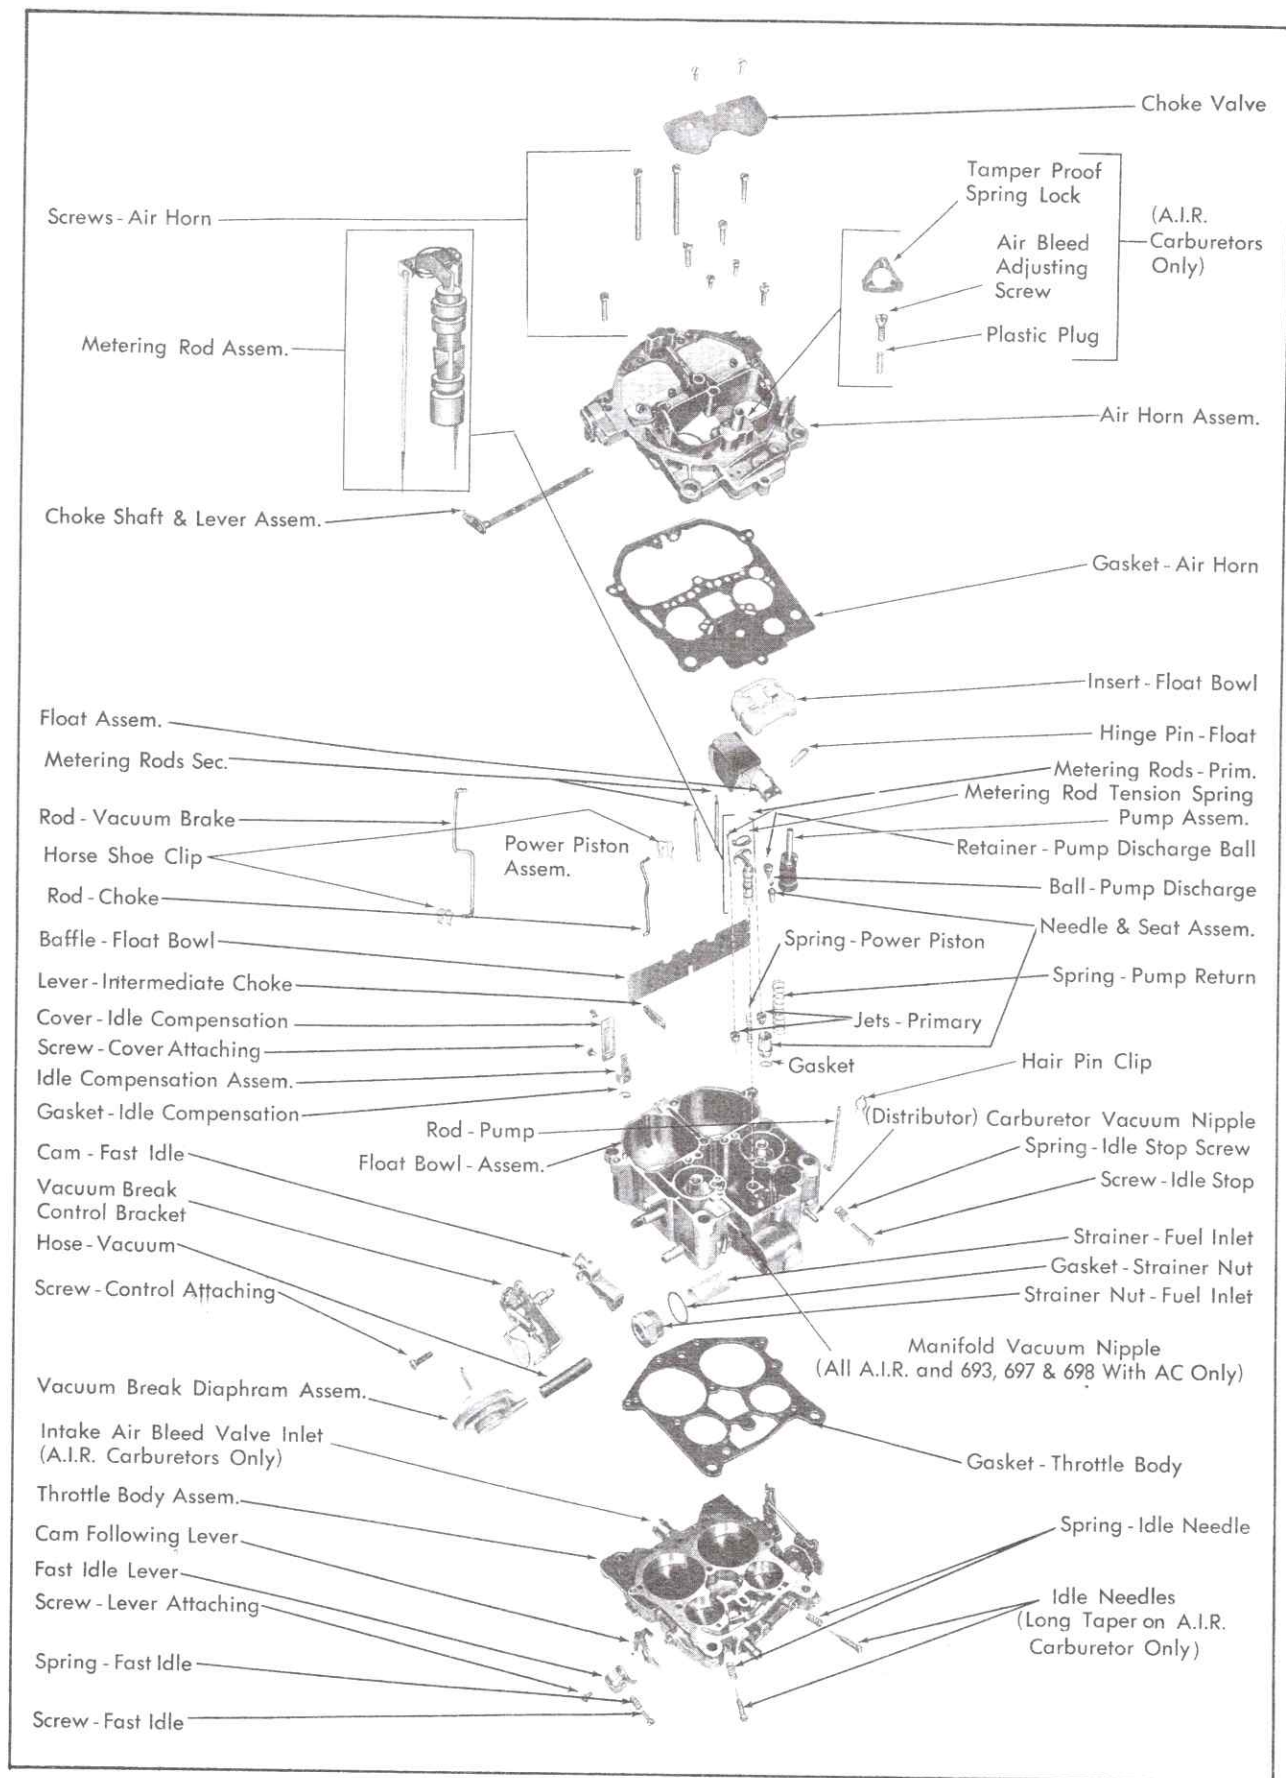

Fig. 6-91 4MV Quadrajet Exploded View
6. Remove metering rods from power piston by disconnecting tension spring from top of each rod then rotating rod to remove from hanger. See inset of Metering Rod Assembly, Fig. 6-91.
1. Thoroughly clean carburetor castings and metal parts, Fig. 6-91, in an approved cold immersion type carburetor cleaner.
15. Install power piston spring in power piston well. If primary main metering rods were removed from hanger re-install making sure that tension spring is connected to top of each metering rod. See Fig. 6-91. Install power piston assembly in well with metering rods properly positioned in metering jets. Press down firmly on power piston to make sure retainer is properly positioned in bore.